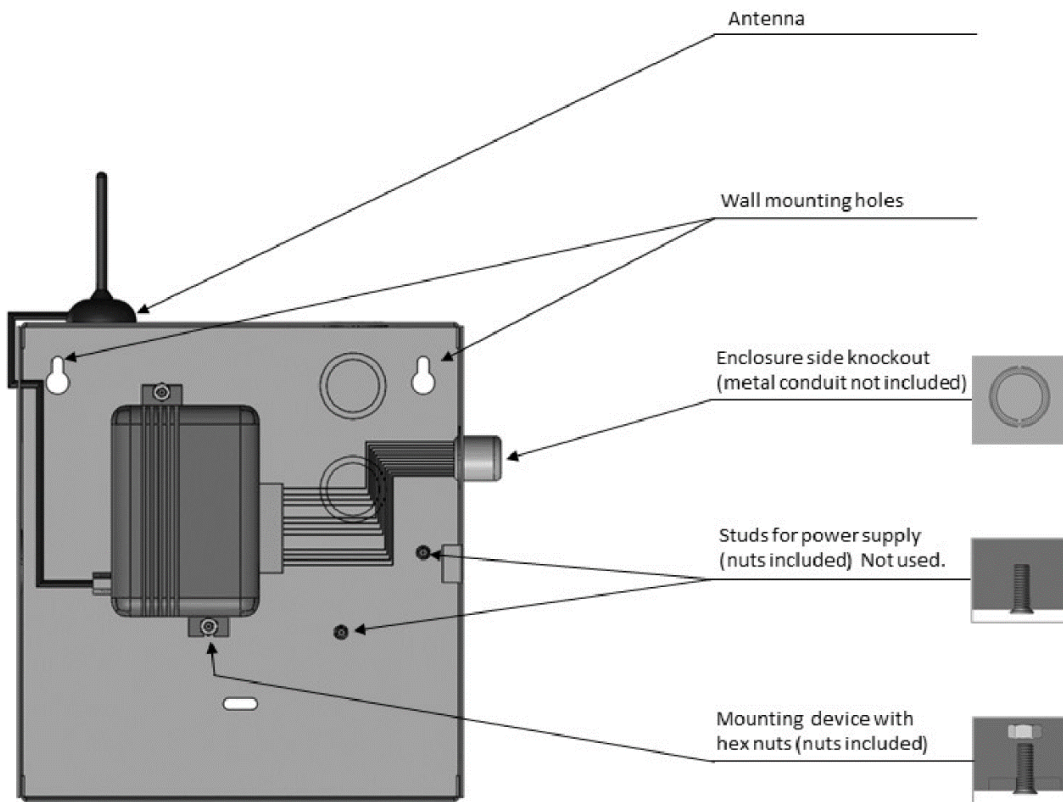

Figure 1: Mounting the Communicator into the Enclosure
- Mount the communicator inside an enclosure, for example HW-AV-ENC, as shown in Figure 1 below.
- 09. If using the HW-AV-ENC enclosure, mount it onto the two mounting holes as in Figure 1 and secure it with the hardware supplied with the enclosure.